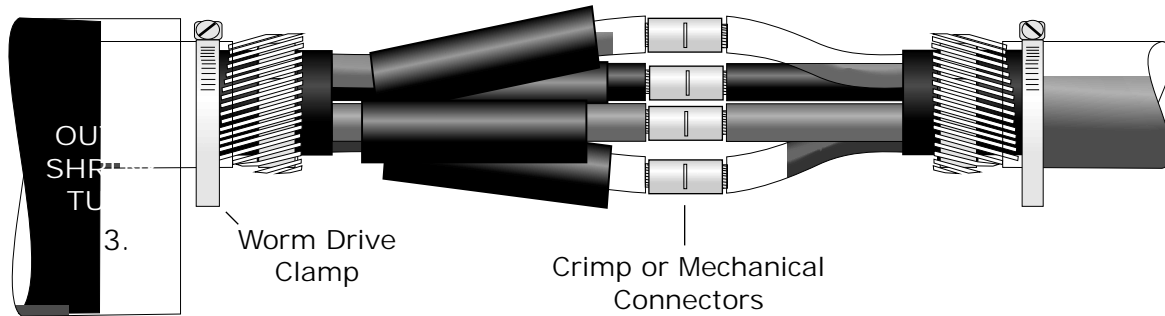

Fig 3
4. Before proceeding, ensure the outer shrink tube is over the outer sheath and the connector insulation tubes are positioned down the longer of the prepared Cores as shown in Fig 3 (or staggered if user wishes).